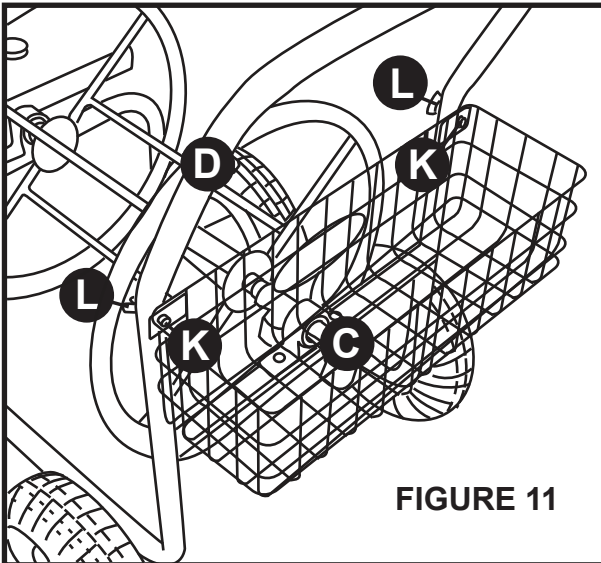

FIGURE 11
11. Attach basket (C) using two 1.44" bolts (K) and fasten with wing nuts (L) to the U-Handle (D). **Figure 11**